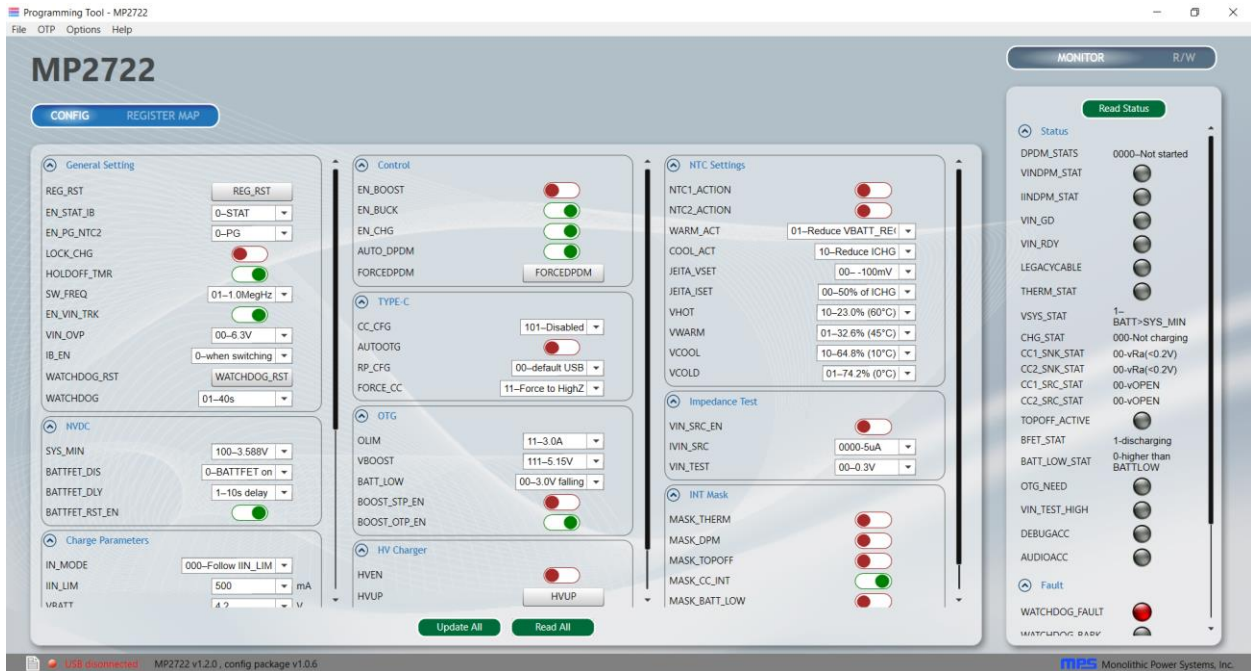

Figure 9: Warning Indicates Unsuccessful Connection (USB I²C Communication Interface is Not Connected)
- If the application shows “USB disconnected”, this means that the USB-to-I²C communication interface is not connected correctly (see Figure 9 on page 10).